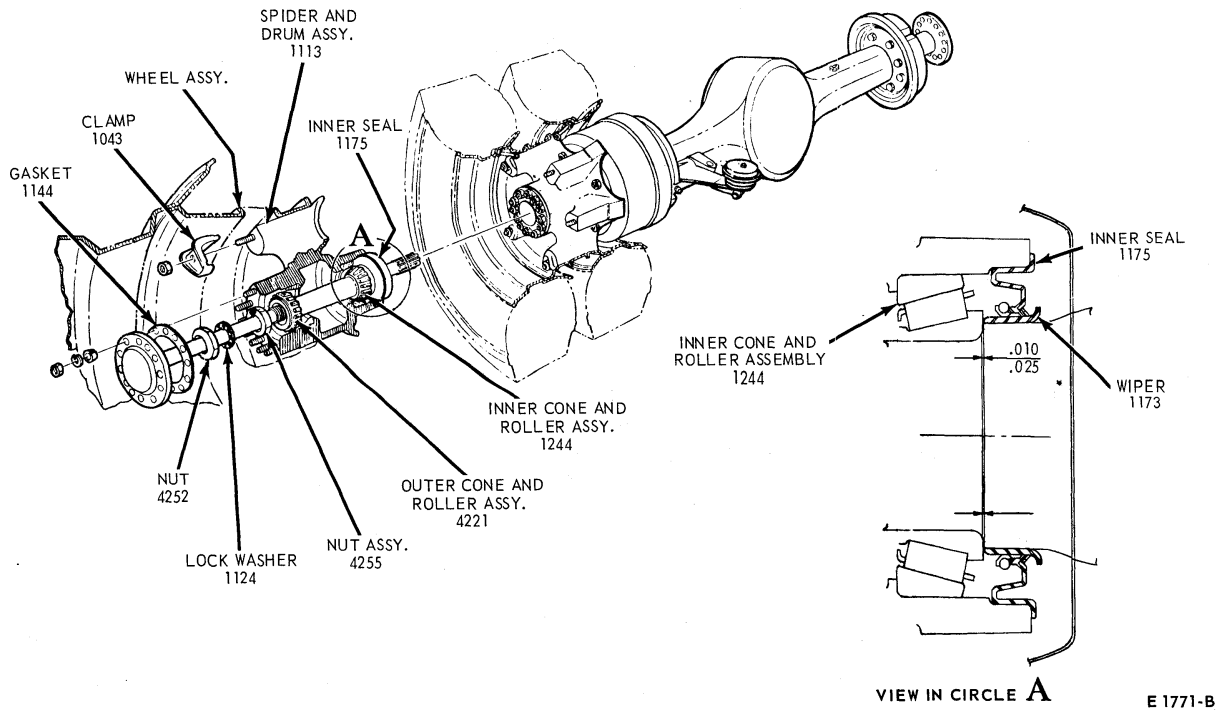
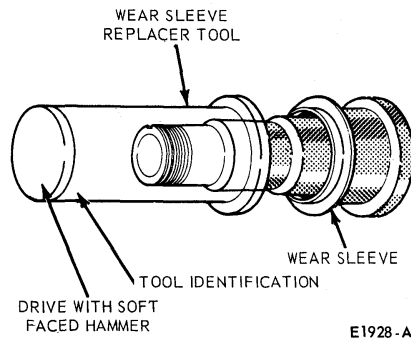

FIG. 2 Typical Rear Wheel Hub—Full-Floating Axle—500-9000 Series
FIG. 3 Tool Application of Wear Sleeve (Wiper) Installation
On these axles, wheel bearing grease is the primary lubrication for the high bearings during extended operation in a tilted condition. On these axles the wheel hub is also vented through the axle housing vent. The seal assembly (500-9000 Series) mounts on the wheel hub and seals on a wear sleeve (wiper) which is installed on the axle housing tube (Fig. 2).
(Fig. 3). **Do not use heat on the wear sleeves to facilitate installation. Use the proper tool as shown in Fig. 3.** The sleeves are designed with flanges to eliminate the possibility of installing the sleeves backwards. Although preservative has been applied to the wear sleeve prior to packaging, a light oil (SAE-10 or its equivalent) should be applied to the wear sleeve to facilitate assembly of the sleeve to the axle housing. After installation of the wear sleeve, the clearance between the end of the wear sleeve and inner wheel bearing shoulder should be 0.010 to 0.025 inches (Fig. 2).
7. Inspect the inner seal wear sleeve on the axle housing spindle for signs of wear or pitting. If necessary to replace the wear sleeve, use a hammer and a cold chisel. Being careful not to damage the seal journal of the axle housing, make two evenly spaced indentations in the wear sleeve surface and slip the wear sleeve off the axle housing. Thoroughly clean the spindle of the axle housing. Then, position a new **proper size** wear sleeve squarely to the axle housing spindle and, with the use of proper driving tool (Fig. 3) and a soft faced hammer, drive the wear sleeve on the axle housing spindle until it seats evenly against the shoulder of the seal journal of the spindle. A light coating of S.A.E. 10 oil should be applied to the inner surface of the wear sleeve to facilitate assembly of the wear sleeve to the axle housing.